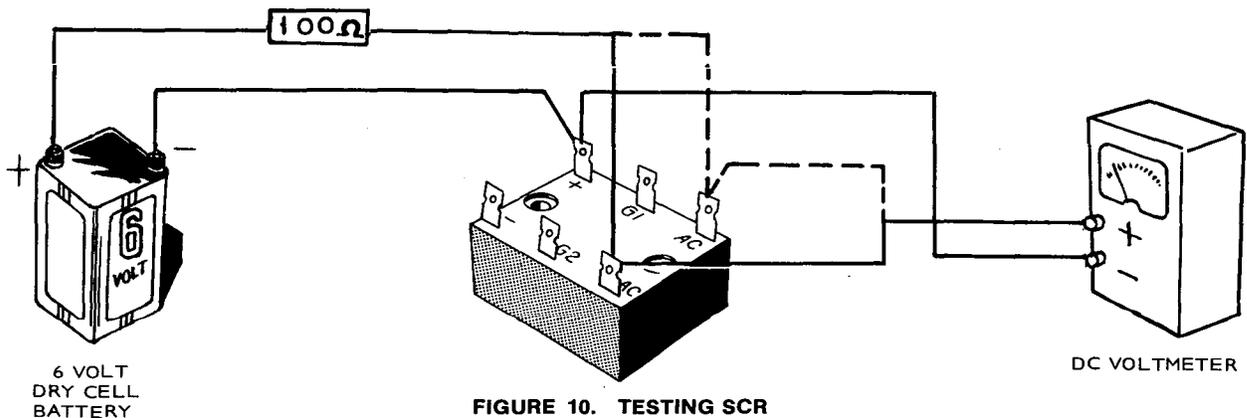

FIGURE 10. TESTING SCR
Disconnect wires from SCR bridge unit prior to testing. Test unit in order shown in Table 3. Refer to Figure 10 for CR4 and CR5 test circuit. When test is complete and satisfactory, reconnect unit observing correct wiring hook-up.
* Apply temporary jumper from AC1 to G1 to test CR4. Remove jumper, read voltmeter. See Figure 10.
** Apply temporary jumper from AC2 to G2 to test CR4. Remove jumper, read voltmeter. See Figure 10.